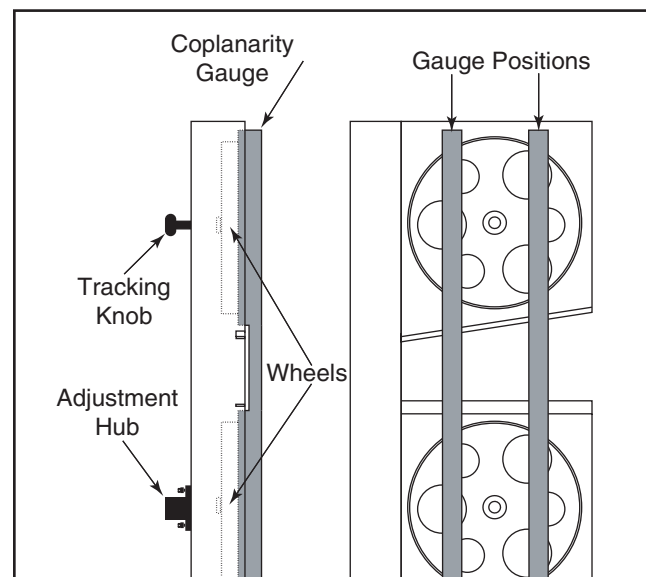

Figure 60. Checking for coplanarity.
4. Place your coplanarity gauge up against both wheels in the positions shown in **Figure 60**.